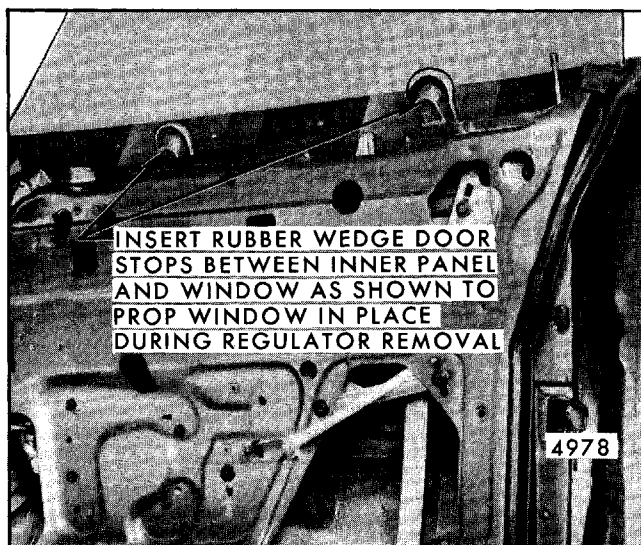

Fig. 5-130-Door Window Propped in Place for Regulator Removal
2. Prop window in full-up position by inserting a rubber door stop between the door inner panel and door glass at front and rear of window (Fig. 5-130).
2. Prop window in full-up position by inserting rubber wedge door stops between window and inner panel (at belt) at front and rear of window (Fig. 5-130).
2. Prop window in raised position with rubber door stops (Fig. 5-130) or with cloth body tape applied over door frame.
rivet center pins, then drill out rivets ("4", Fig. 5-73) with 1/4" drill bit. Disengage regulator lift arm roller from lower sash channel cam and prop window in full-up position with rubber door stops as shown in Figure 5-130. Remove by rotating regulator so that motor portion of regulator comes out access hole first.
2. Prop window in half-raised position with rubber door stop wedges as shown in Figure 5-130.